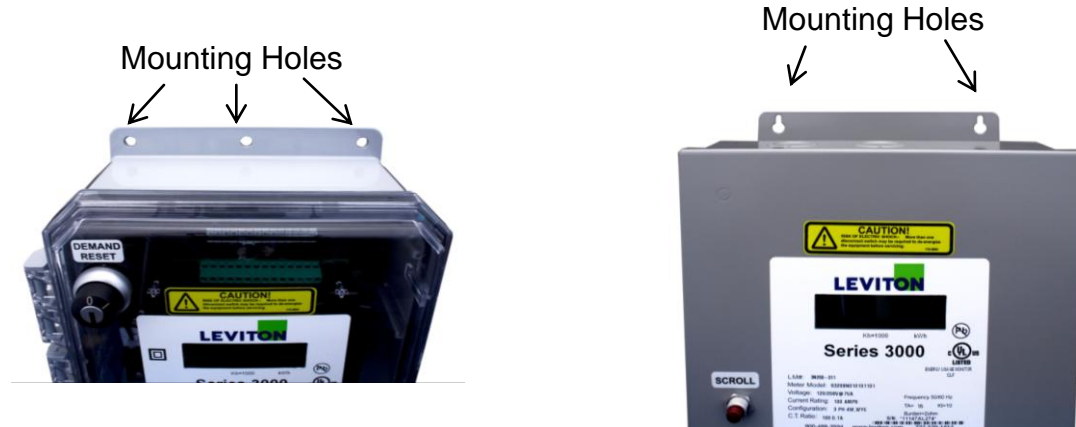

Figure 7: Enclosure mounting holes
2. Figure 7 depicts the top mounting holes for both enclosures. There are also mounting holes on the bottom of each enclosure. See Section 1.3 for mounting dimensions.